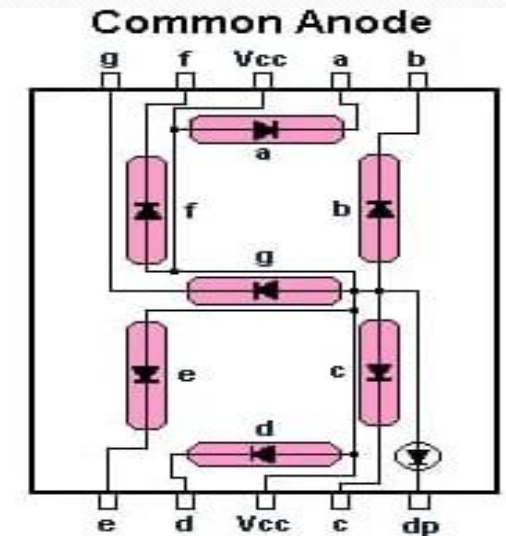

Fig 3.4
- It has seven segments of Led (from a to h), and its gets on according to the particular pin, which goes high or low(i.e 1 or 0.) (Fig 3.4)